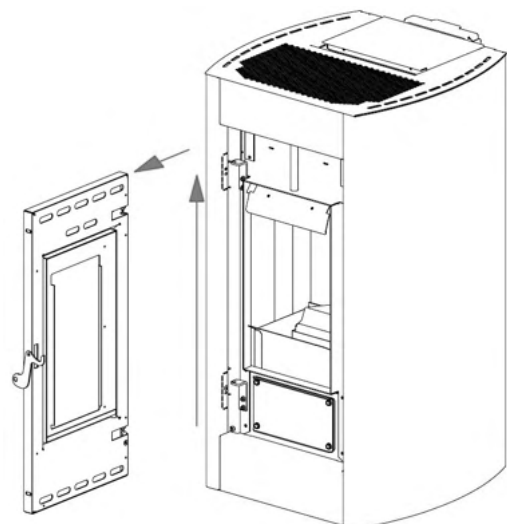

Fig. 33 - Door removal
- Lift the door to allow the door pivots to slide out of the structure bracket (see Fig. 33).